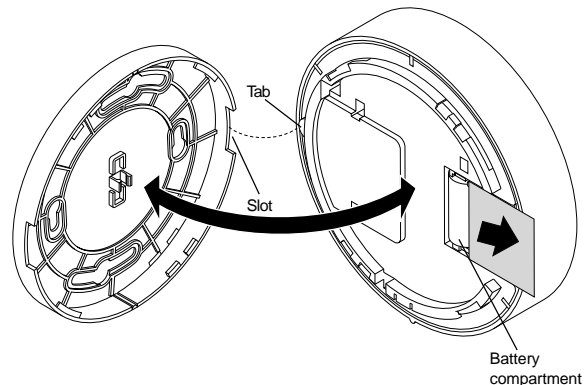

Figure 4 - Detector-to-Base Alignment
2. Slide the battery compartment cover away from the detector to unsnap it and lift it off. See Figure 4.
- Line up the raised tab on the lip of the detector with the slot on the lip of the mounting base. See Figure 4.
- Line up the raised tab on the lip of the smoke detector with slot on the lip of the mounting base. See Figure 4.